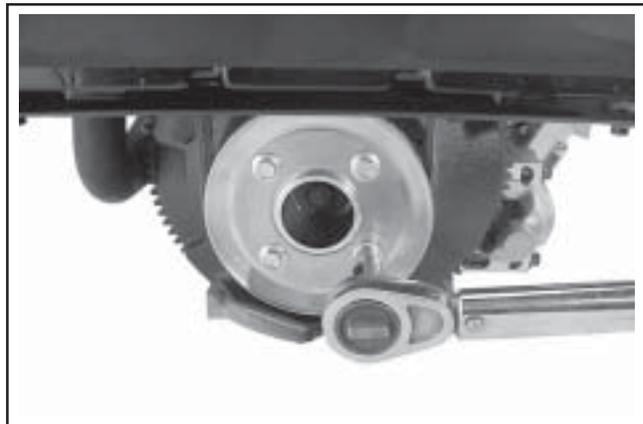

Figure 9-31. Removing Lower Pulley Four Screws.
1. Remove the four screws attaching the lower drive pulley assembly to the pulley adapter and flywheel. See Figure 9-31.